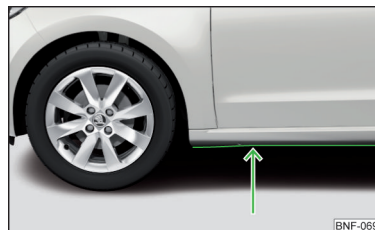

Fig. 127
- ▶ Therefore determine the depth of the water before driving through bodies of water. The water level must not go above the web of the lower beam » Fig. 127.